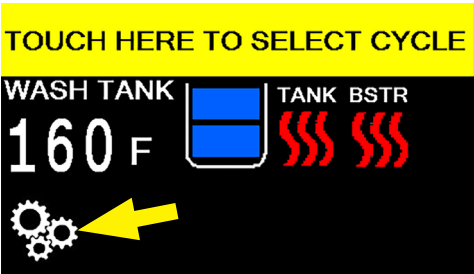

Fig. 62 - Main screen
- 1. Press the SETTINGS button access supervisor menu, (Fig. 62).